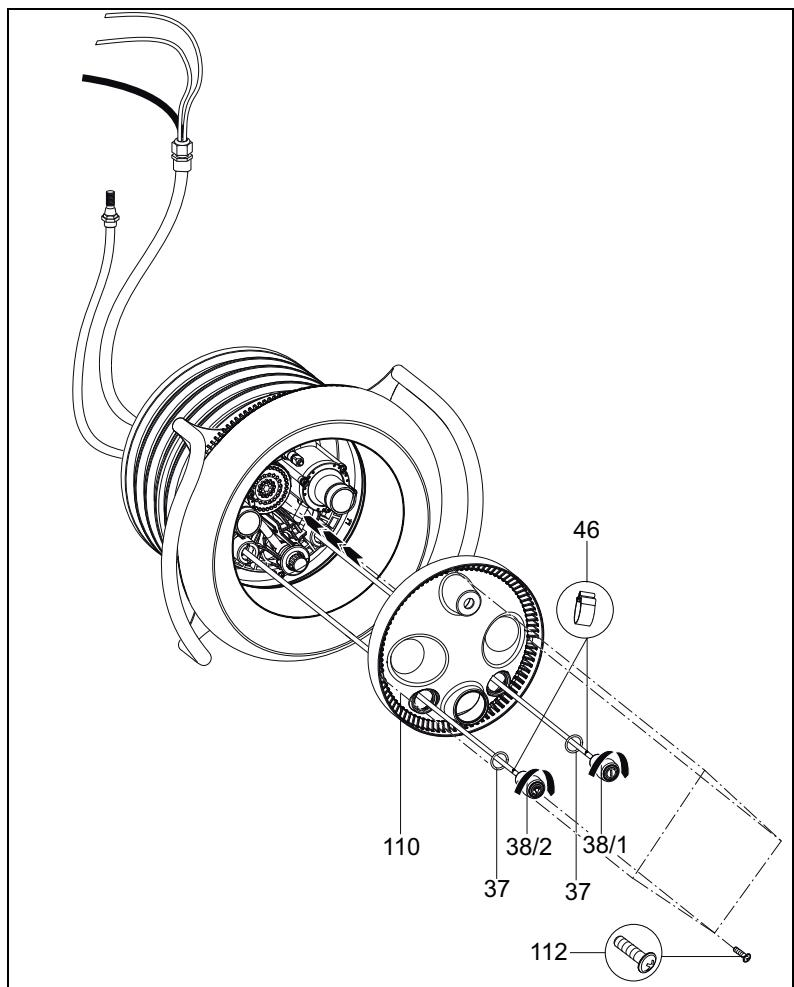

Fig. 12
10. Lay the pneumatic hoses through the lower / upper openings of the light cover (**110**) (light ON/OFF left; pump ON/OFF right). Align the light cover (**110**) centred to the nozzle housing (**102.1**) and fasten with four tapping screws (**112**) (*Fig. 12*).
11. Slide one O-ring (**37**) each onto a pneumatic button (**38/1; 38/2**). Fasten the pneumatic hoses to the corresponding buttons using the hose clamps (**46**). Insert the two pneumatic buttons through the light cover (**110**) into the nozzle housing and lock it by turning it clockwise (*Fig. 12*).